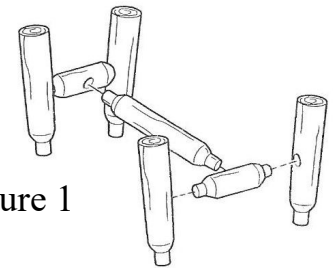

Figure 1
STEP 1 Insert a leg support into the hole of two of the legs. Next insert the leg support into the hole on the two remaining legs. Insert leg spreader into the hole on each of the leg supports. Use a rubber mallet to drive the leg assembly together. See figure 1.